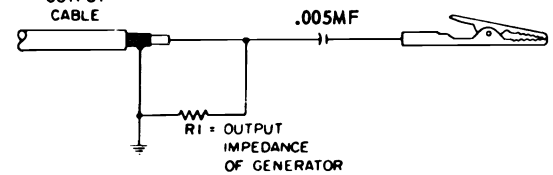

Figure 18 - Generator Cable Termination.
**Generators** — Except where stated otherwise, all signal generating equipment should be terminated as shown in Figure 18. Connect the signal cable ground near the ground of the state where the signal is injected.
- b. Apply AGC bias through the bias circuit (Figure 18) to the junction of R16- and C156 (Figure 18).